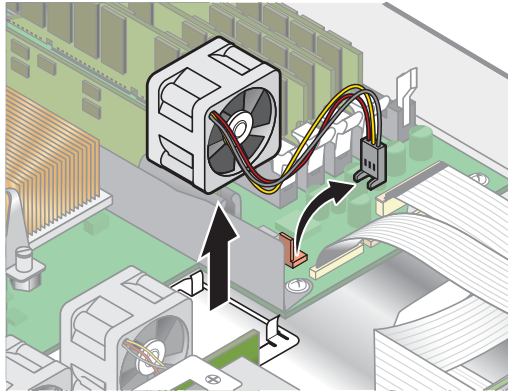

FIGURE 4-21 Removing the Cooling Fans
4. Unplug the fan’s power connector from the motherboard (see FIGURE 4-21).